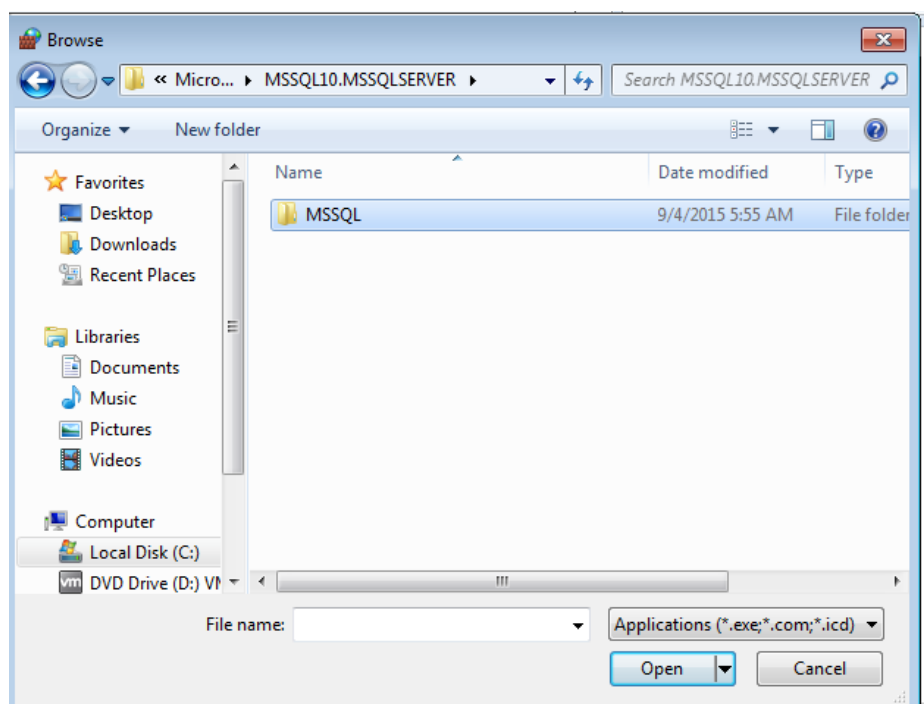

Fig.1.24 Browse
(9) Open MSSQL folder (see Fig.1.24).